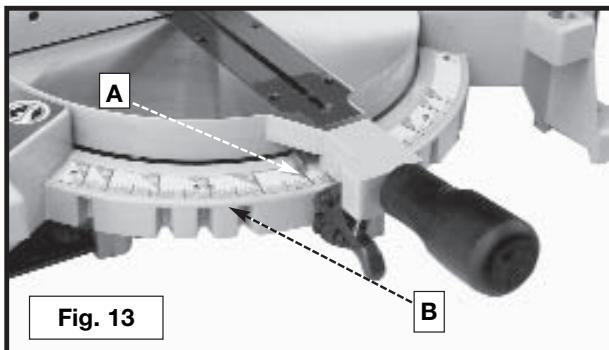

Fig. 13
A pointer (A) Fig. 13 is supplied to indicate the actual angle of cut. Each line on the scale (B) represents 1 degree. When the pointer is moved from one line to the next on the scale, the angle of cut is changed by 1 degree.